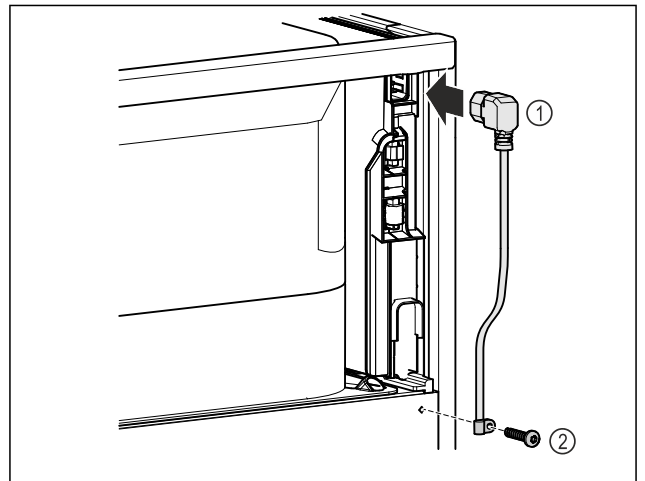

Fig. 40
- ▶ IEC socket of the power cable Fig. 40 (1) on the rear side of the appliance.
- ▶ Install mains tension relief. Fig. 40 (2)